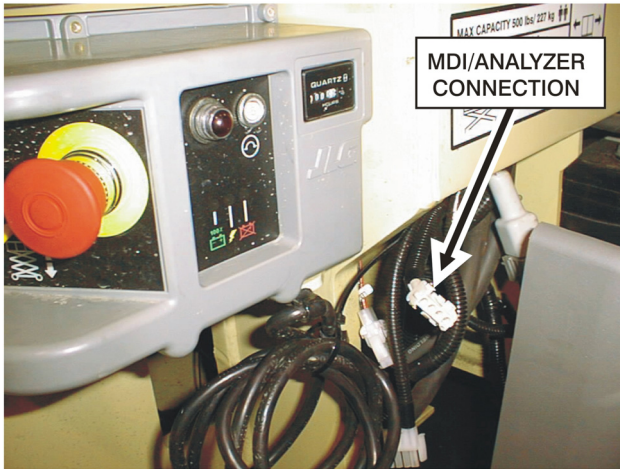

Figure 5-1. Diagnostic Port
1. Connect the four pin end of the cable supplied with the analyzer, to the diagnostic port (refer to Figure 5-1.) and connect the remaining end of the cable to the analyzer.